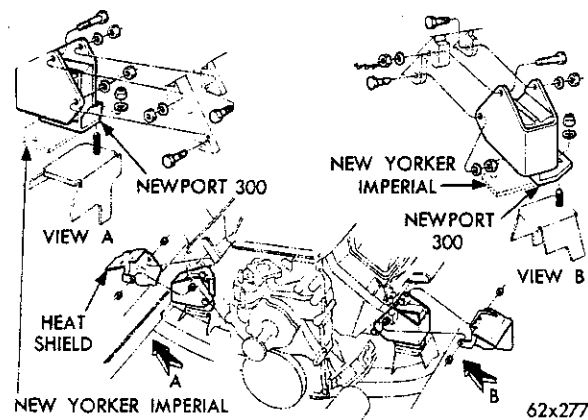

Fig. 55—Front Engine Mounts
(1) Install the mounts on the engine and tighten the nuts to 45 foot-pounds torque, as shown in Figure 55.